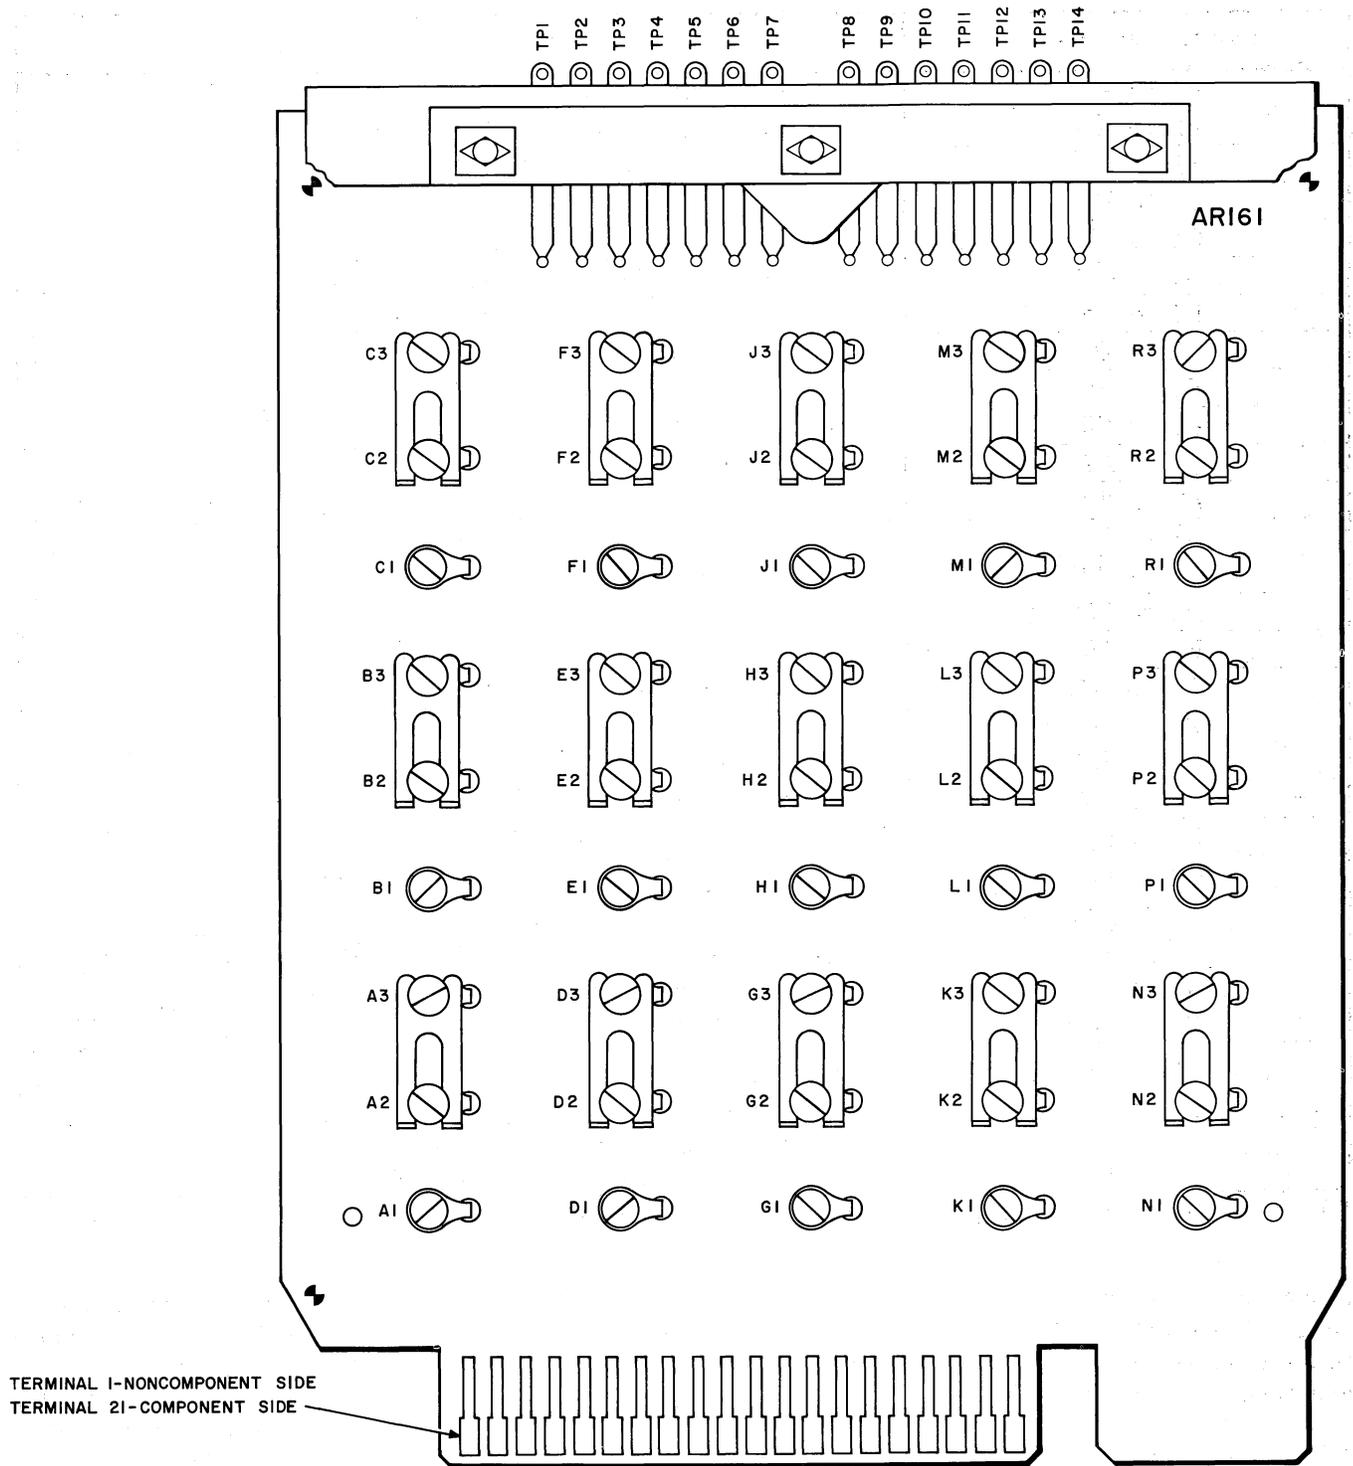

Fig. 3—Circuit Pack AR161 (Strap Circuit) Board
3.09 Remove the circuit pack retaining bar from the "C" nest. Use the extracting tool and carefully remove the AR161 circuit pack from location C21. The AR161 Strap Circuit board is illustrated in Fig. 3, and the functions accomplished through the shorting straps are tabulated in Table A. Position the shorting straps as instructed by the service order. After the circuit pack is properly conditioned, carefully return it to the original location and remove the extracting tool.